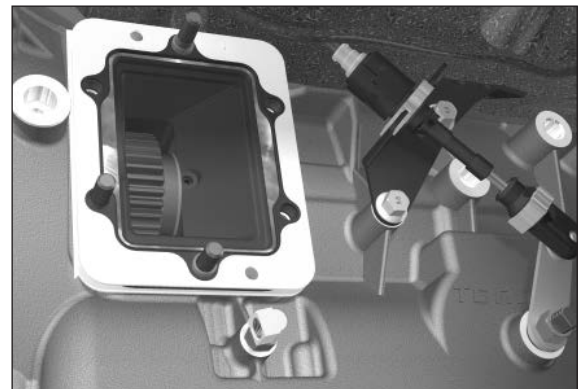

Figure 31
- Install the gasket supplied with the PTO over the studs and against the geared adapter (**Fig. 31**).